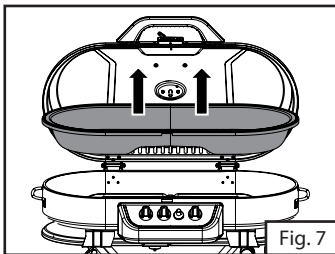

Fig. 7
4. Remove the water pan and set aside. (Fig. 7)